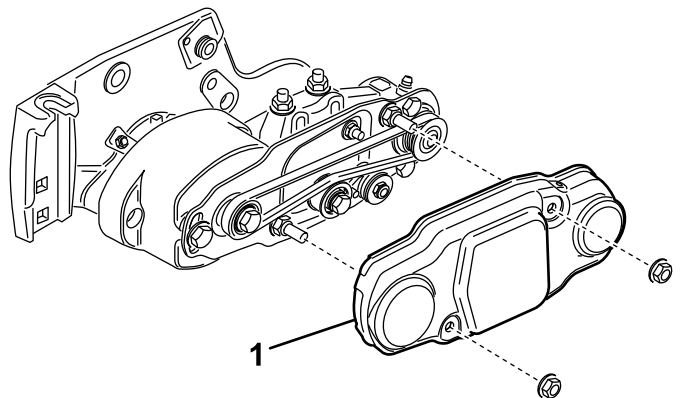

Figure 18
25. Slide the belt cover onto the mounting bolts and secure with 2 flange nuts (Figure 18).